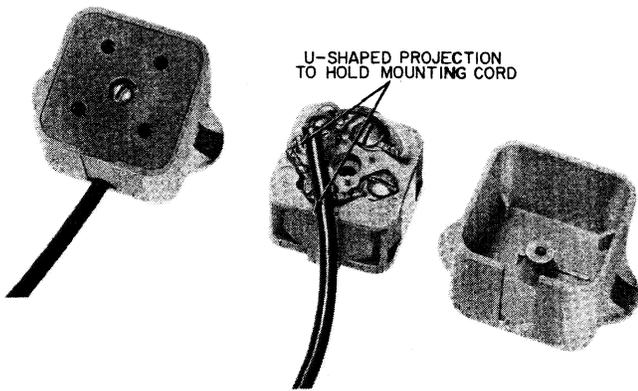

Fig. 3—423A Plug, Front View and Rear View Cover Removed
2.04 The 423A plug (Fig. 3) is a two piece, 4-contact molded plastic plug for use with the 750-type panel telephone set. U-shaped projections are molded in the base for securing the mounting cord.
4.04 Connections for the 423A plug (Fig. 3) are as follows:
- (1) Make connections as indicated by color designations stamped adjacent to terminals.
- (2) Connect cord tips as shown in Fig. 3.
- (3) Lay jacketed portion of cord in the two molded U-shaped projections.
- (4) Place cover on base and tighten screw.